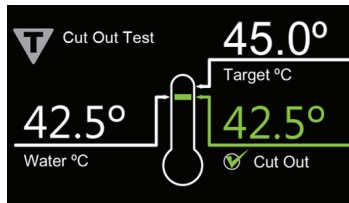

Figure 52 – Cut out test pass
3. The controller will cutout between 42.5° C and 45° C (Figure 52).